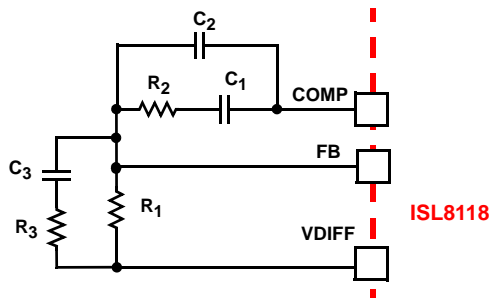
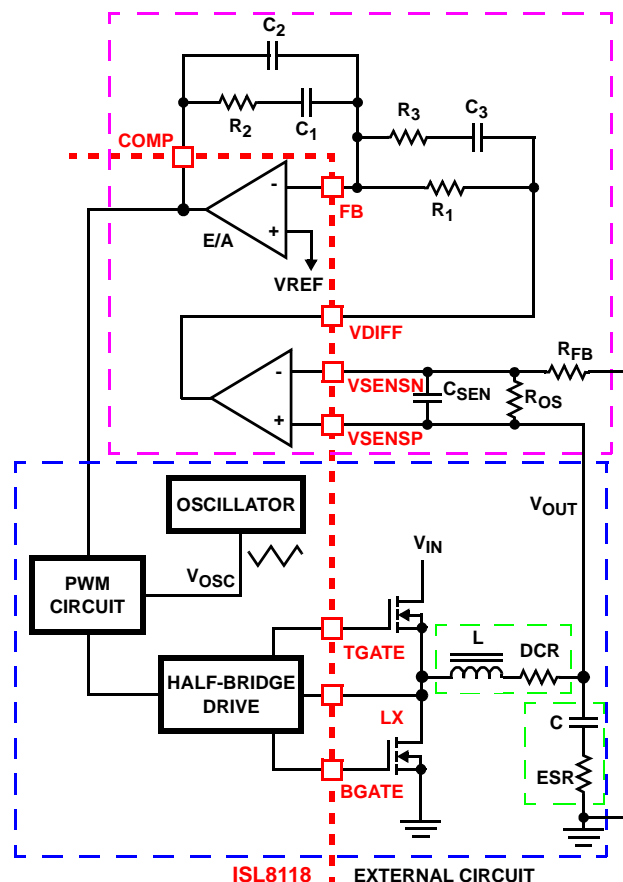

FIGURE 9. COMPENSATION CONFIGURATION FOR ISL8118 WHEN USING DIFFERENTIAL REMOTE SENSE
FIGURE 10. VOLTAGE-MODE BUCK CONVERTER COMPENSATION DESIGN
The ISL8118 single-phase converter is a voltage-mode controller. This section highlights the design considerations for a voltage-mode controller requiring external compensation. To address a broad range of applications, a type-3 feedback network is recommended (see Figure 9).
Figure 10 highlights the voltage-mode control loop for a synchronous-rectified buck converter, when using an internal differential remote sense amplifier. The output voltage (V_{OUT}) is regulated to the reference voltage, V_{REF}, level. The error amplifier output (COMP pin voltage) is compared with the oscillator (OSC) triangle wave to provide a pulse-width modulated wave with an amplitude of V_{IN} at the LX node. The PWM wave is smoothed by the output filter (L and C). The output filter capacitor bank's equivalent series resistance is represented by the series resistor ESR.
The compensation network consists of the error amplifier (internal to the ISL8118) and the external R₁-R₃, C₁-C₃ components. The goal of the compensation network is to provide a closed loop transfer function with high 0dB crossing frequency (F₀; typically 0.1 to 0.3 of F_{SW}) and adequate phase margin (better than 45°). Phase margin is the difference between the closed loop phase at F_{0dB} and 180°. The equations that follow relate the compensation network's poles, zeros and gain to the components (R₁, R₂, R₃, C₁, C₂, and C₃) in Figures 9 and 10. Use the following guidelines for locating the poles and zeros of the compensation network:
1. Select a value for R₁ (1kΩ to 10kΩ, typically). Calculate value for R₂ for desired converter bandwidth (F₀). If setting the output voltage to be equal to the reference set voltage as shown in Figure 9, the design procedure can be followed as presented. However, when setting the output voltage via a resistor divider placed at the input of the differential amplifier (as shown in Figure 10), in order to compensate for the attenuation introduced by the resistor divider, the below obtained R₂ value needs be multiplied by a factor of (R_{OS}+R_{FB})/R_{OS}. The remainder of the calculations remain unchanged, as long as the compensated R₂ value is used.
As shown in Figure 10, can be added to filter out noise, typically C_{SEN} is chosen so the corresponding time constant does not reduce the overall phase margin of the design, typically this is 2x to 10x switching frequency of the regulator. As the ISL8118 supports 100% duty cycle, d_{MAX} equals 1. The ISL8118 also uses feed-forward compensation, as such V_{OSC} is equal to 0.16 multiplied by the voltage at the VFF pin. When tying VFF to V_{IN} the above equation simplifies to: